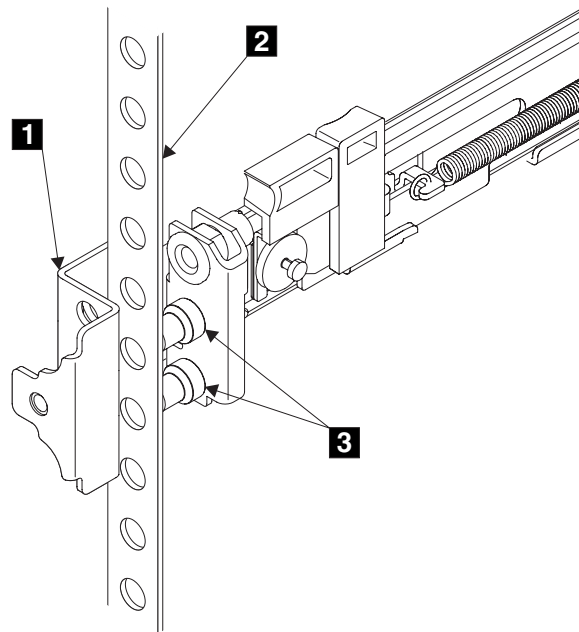

Figure 25. Installing the front end of the rail
9. Place the front end of the left rail in the rack cabinet. Align the top of the front bracket **1** (Figure 25) with the required EIA marking that is on the rack.